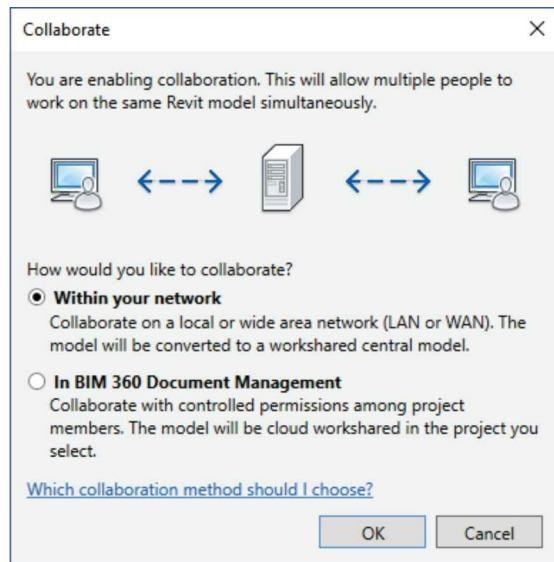

FIGURE 16-2.3 Enabling Worksharing (Collaboration)
- With **Within your network** selected, click **OK** (Figure 16-2.3)
The option to collaborate using A360, shown in Figure 16-2.3, is a paid cloud service offered by Autodesk to allow design firms from different offices to work on the same Revit model.
Looking back at Figure 16-2.3, notice that modeled elements, if any exist, are divided up between two default Worksets when Worksharing is activated: